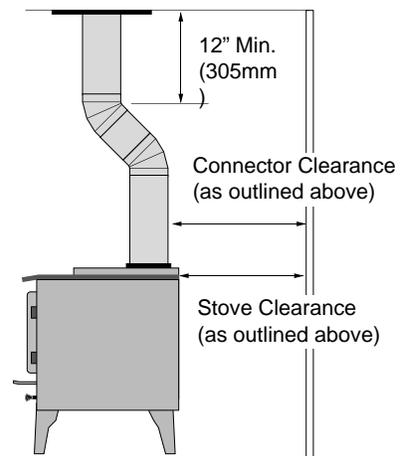

Figure 10
- If using offsets, use the connector clearance listed in Figure 10, **not the connector manufacturer's clearance.**